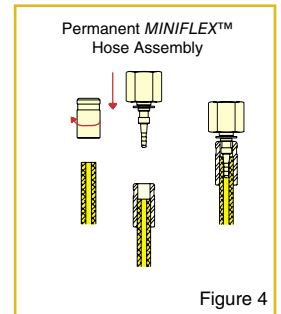

Figure 4
3. Tap the nipple with a rubber mallet until the hose end bottoms onto the hose (Figure 4).